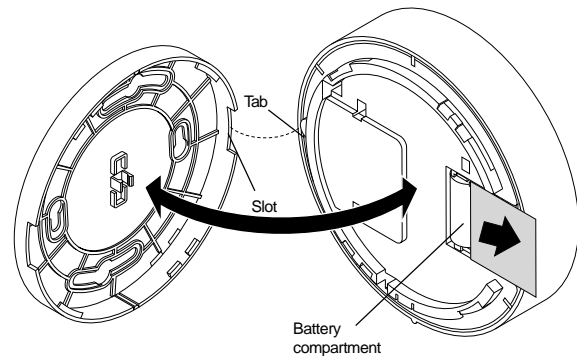

Figure 3 - Alarm-to-Base Alignment
1. Slide the battery compartment cover away from the alarm to unsnap it and lift it off. See Figure 3.
- Line up the raised tab on the lip of the alarm with the slot on the lip of the mounting base. See Figure 3.
- Line up the raised tab on the lip of the smoke alarm with the slot on the lip of the mounting base. See Figure 3.
2. Slide the battery compartment cover away from the alarm to unsnap it and lift it off. See Figure 3.